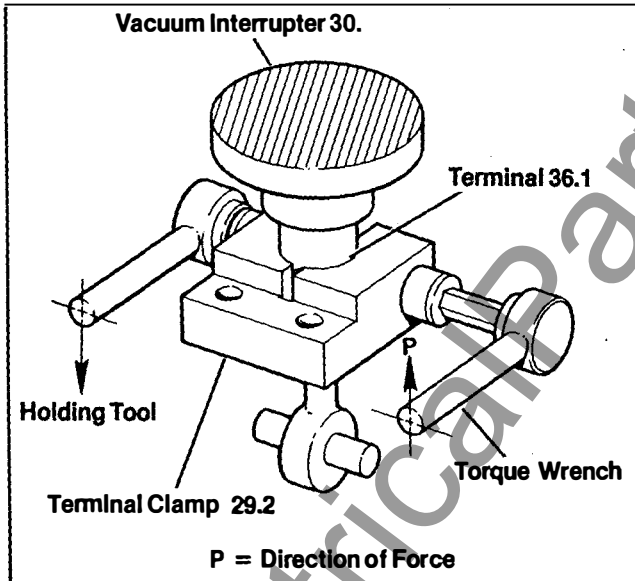

Figure 23. Procedure to Tighten Terminal Clamp
- 2.6 Push terminal clamp 29.2 against the locking ring on the moving terminal 36.1 and position interrupter 30 so that its groove faces the connecting surface of flexible strap 29.1. Tighten the bolt of terminal clamp 29.2 with a torque of 40 Nm, taking care to see that the copper terminal of the interrupter is not subjected to an undo bending moment. This is achieved by tightening the bolt in the manner shown in Figure 23. Use a corresponding wrench to hold the nut.